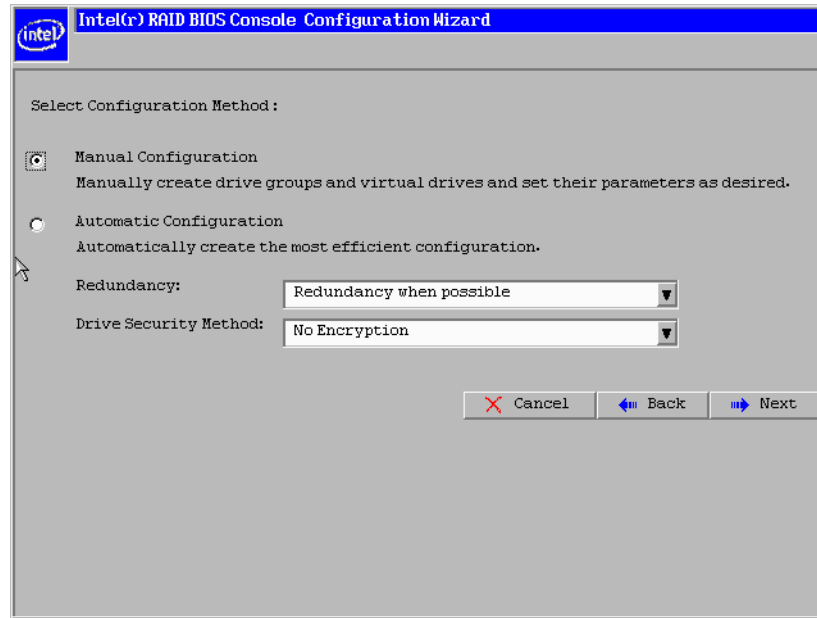

Figure 14. Intel® RAID BIOS Console 2 - Configuration Methods
3. Choose Manual Configuration and click **Next** (see Figure 14).
3. Select **Custom Configuration** and click **Next** (see Figure 14).